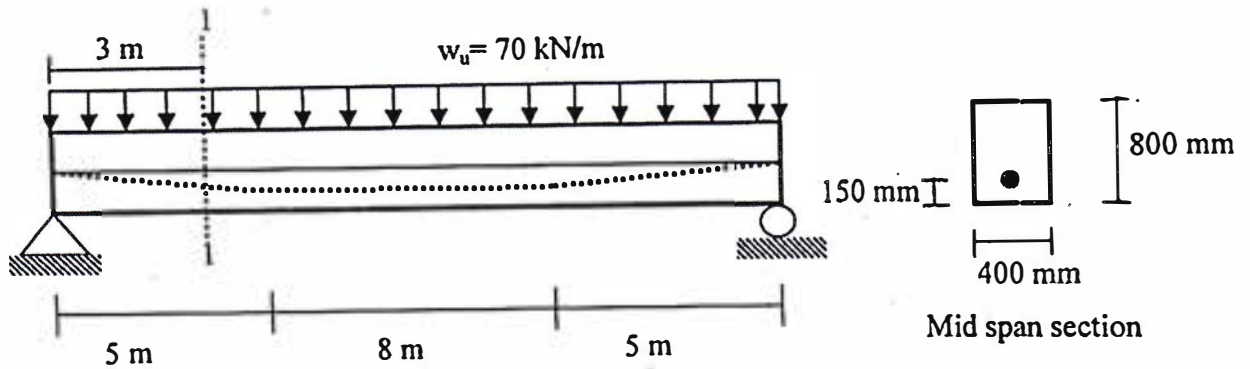

Figure: 2
3. (a) Check the shear strength for the beam shown in **Figure: 2** at section 1-1 which is 3 m from the left support. Given that this section is adequate for $w_u = 70$ kN/m on the basis of its flexural strength. (Given: $f'_c = 40$ MPa, $f_{se} = 1100$ MPa, $A_{ps} = 1760$ mm²) (14)